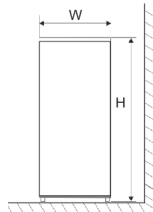
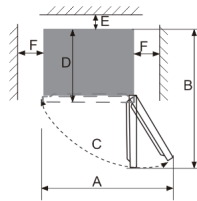

Fig. 1
Fig. 2
**Note:** Figure1, Figure2 only illustrate the space demand of the product.